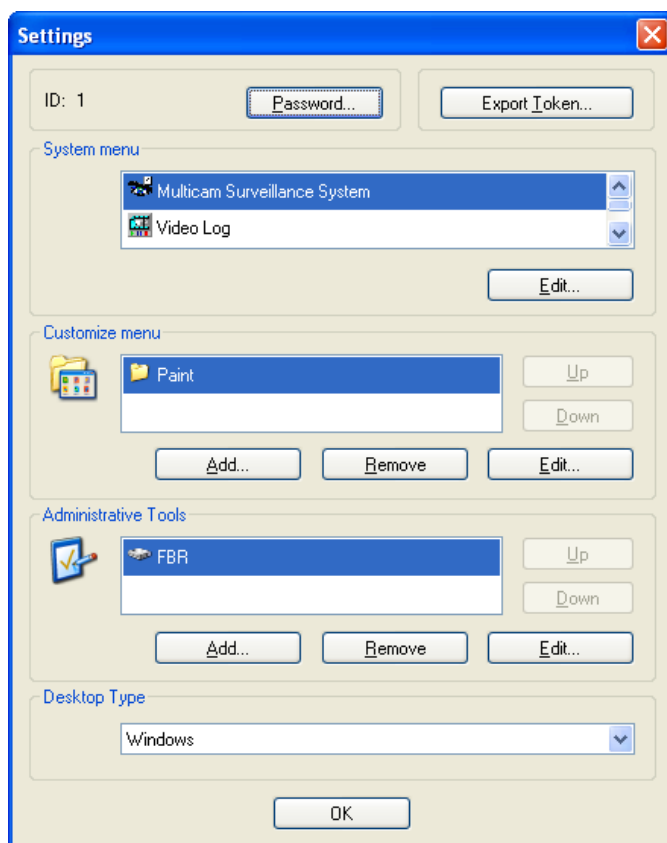

Figure 11-19
1. Click the **Export Token** button (Figure 11-19) to display the following dialog box.
7. When the Settings window (Figure 11-19) appears, select **Windows** in the Desktop Type field, and then exit from the window.